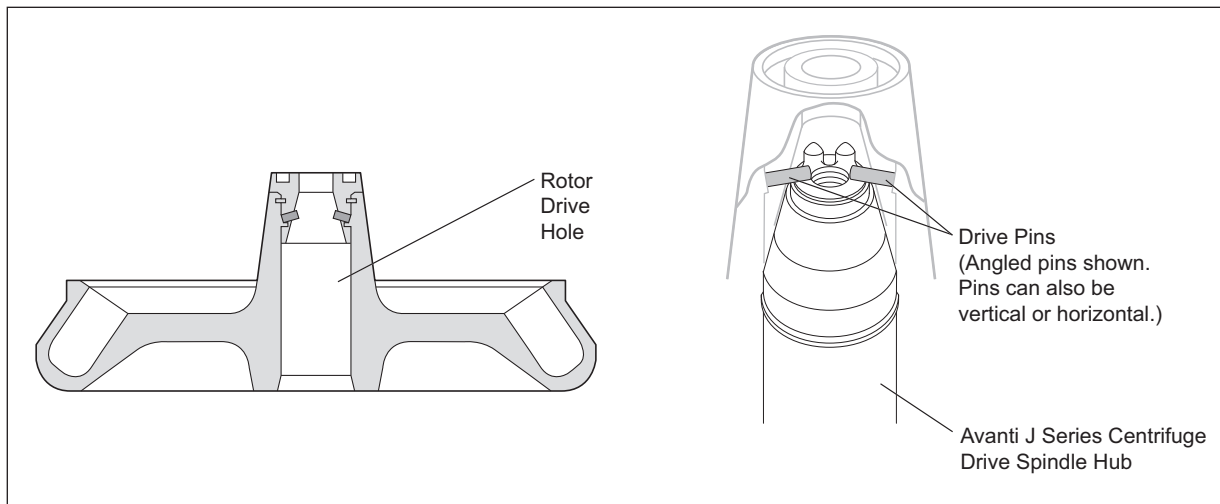
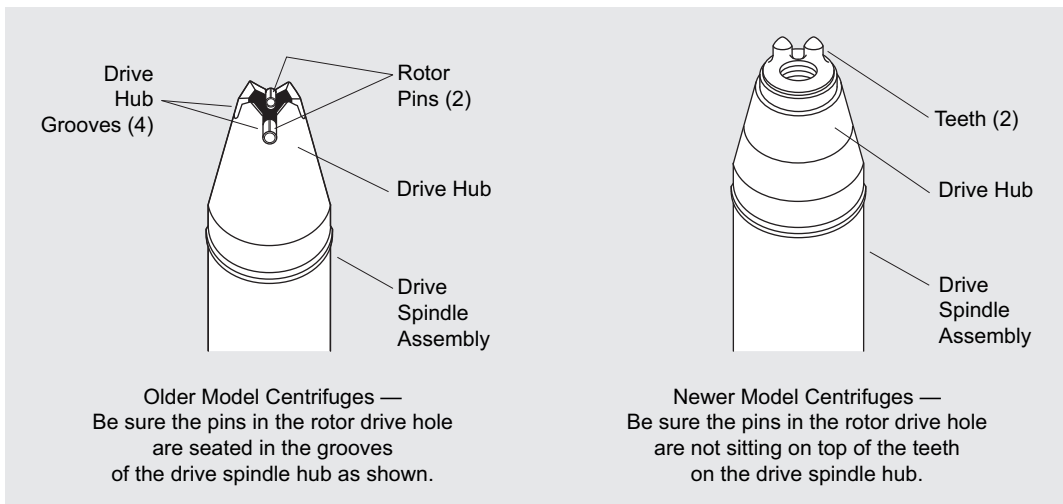

Figure 2. Rotor Drive Pin Location and Orientation
Figure 3. Centrifuge Drive Hub Configurations
Two metal pins inside the rotor drive hole engage with teeth on the centrifuge drive hub to prevent the rotor from slipping during acceleration and deceleration (see Figure 2). When the rotor is properly installed, the pins sit either in the drive hub grooves or on top of the hub surface (see Figure 3).
2. Slowly turn the rotor, making sure that it is properly seated on the spindle hub (see Figure 2).